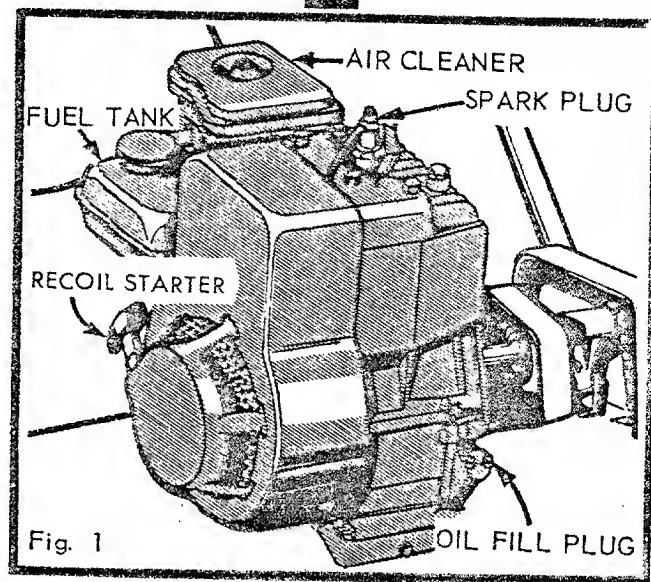

Fig. 1
1. (Fig. 1) Remove oil fill plug. Place mower level and fill engine crankcase to top of oil fill plug with S.A.E. No. 30 oil. Tilt mower to make sure oil flows completely into crankcase. Replace fill plug and tighten.